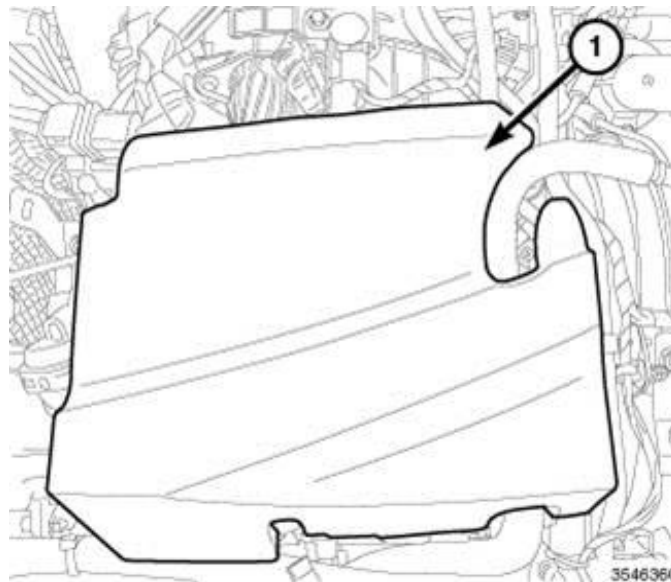

Fig. 1
4. Remove fuel injector silencer from right cylinder bank (Fig. 1).